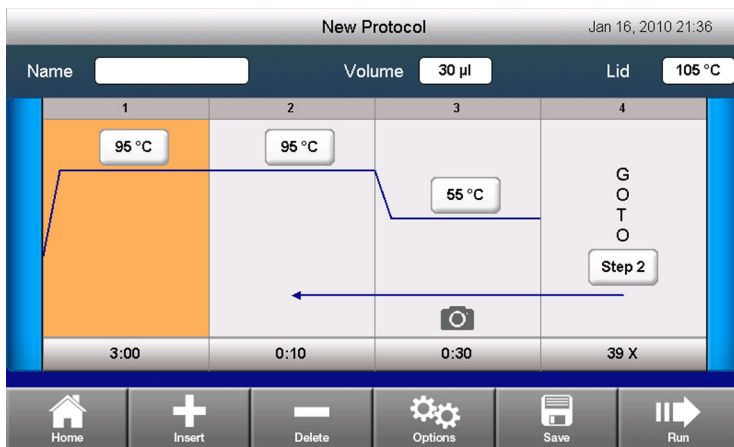

Figure 38. Default real-time PCR protocol.
1. Select **New Protocol** on the home screen to open a new protocol template (Figure 38).
3. (Optional) To insert a new step, select the step prior to the step to be inserted and touch the **Insert** button. The steps that can be entered are Temperature, Gradient, Goto, Plate Read, and Melt Curve. To delete a step, touch the **Delete** button (Figure 38).
4. (Optional) To change step options, select the step and touch the **Options** button (Figure 38). In the **Step Options** window, the step parameters that can be changed
- To change the sample volume, touch the Volume field (Figure 38). Enter a new sample volume in microliters. The sample volume you enter determines the temperature control mode that is used during a run.
- To change the lid temperature, touch the **Lid** field and enter a new temperature (Figure 38). The default lid temperatures for the CFX96 and CFX384 modules are 105°C and 95°C, respectively.
1. To run the protocol, touch the **Run** button in the Edit Protocol window (Figure 38).